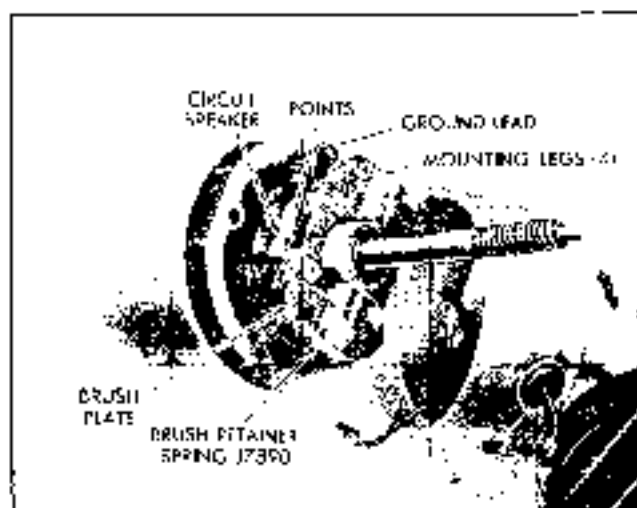

Fig. 12-33 Retain Holding Brush in Place—Partrac
5. Unholder black ground lead from circuit breaker terminal, (Fig. 12-33).
7. Install U shaped brush retainer clip J 7890 over brush holder that has brush lead attached to circuit breaker (Fig. 12-33).